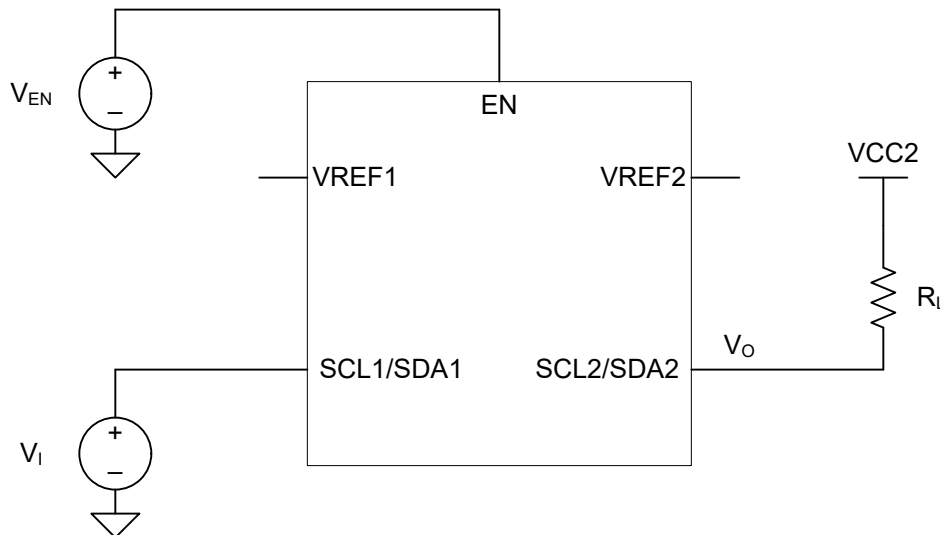

Figure 7-2. Direct Propagation Measurement
(1) Guaranteed by simulation, not tested in production
(2) Translating Down: the high-voltage side driving toward the low-voltage side. See Fig 7.2 *Direct Propagation Measurement*
(2) Translating up: the low-voltage side driving toward the high-voltage side. See Fig 7.2 *Direct Propagation Measurement*